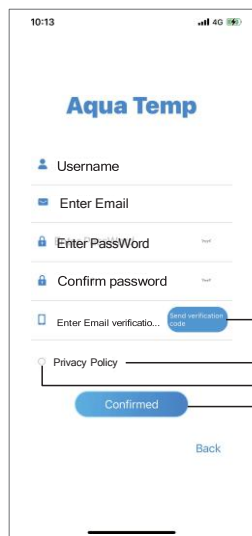

Fig.2 Account Registration interface
- 9. Click "Confirmed", device bond is done (Fig.2)
- 11. Click the device directly jump to device main interface(Fig.2